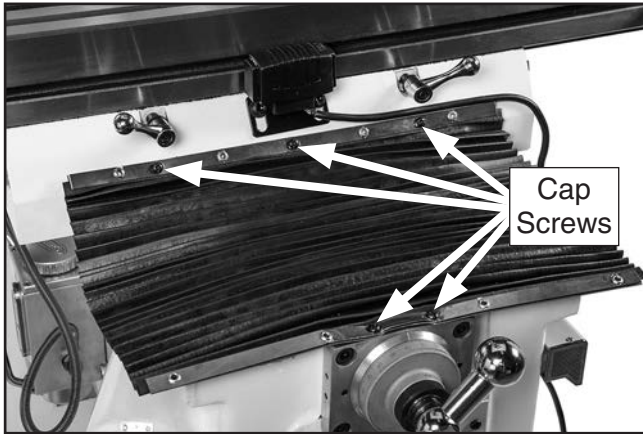

Figure 21. Front way cover installed.
5. Move table all the way back toward the column, then attach front way cover with five pre-installed cap screws, as shown in **Figure 21**.